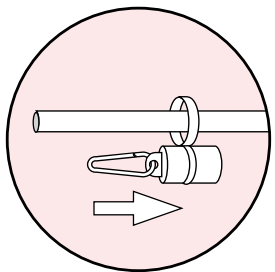
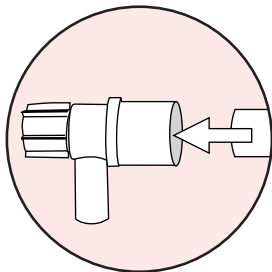
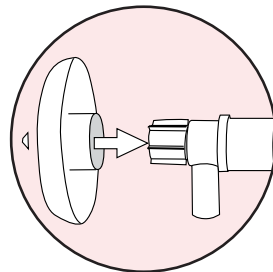

Fig 1a.
Fig 1b.
Fig 1c.
1. Check contents. Place weight over pole (see fig 1a), mount rotating joint onto top of pole (see fig 1b), push on finial. (see fig 1c)